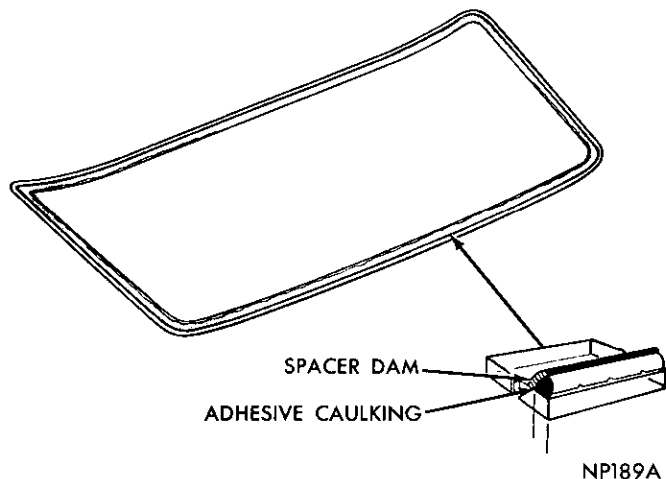
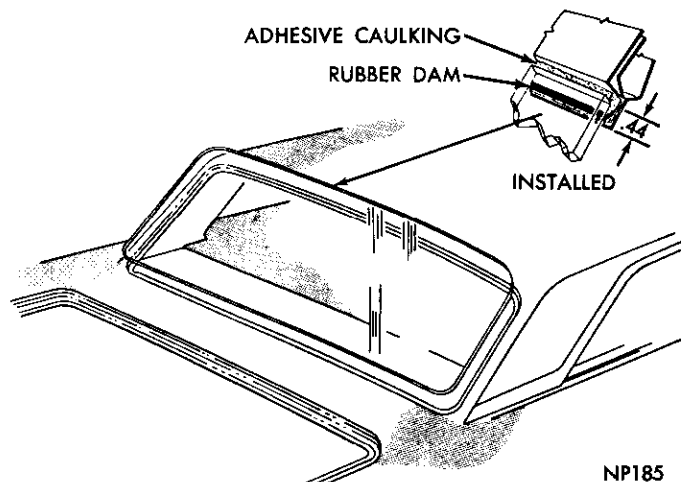

Fig. 8—Adhesive Application to Glass
Fig. 9—Rear Window Installation
(5) Attach suction cups to glass outer surface and position glass in opening.
(6) Inspect relationship of glass to fence completely around opening. The spacer dam should fold under and create a cushion for the glass to rest on. The glass to body fence overlap (0.30 inch minimum) should be equal across the top and sides. Use waterproof shims under spacers to obtain required overlap.
(7) Apply a piece of masking tape over each side of glass and roof extensions. Slit tape vertically at edge of glass so when glass is installed, tape on glass can be aligned with tape on body.
(8) Remove glass from opening and place on a protected surface, with inside surface up.
(11) Insert adhesive tube into a standard household caulking gun, install nozzle on end of tube, and puncture adhesive seal at nozzle.
(12) Apply a smooth continuous 3/8 inch bead of adhesive on glass between glass edge and spacer dam (Fig. 8).
(13) When positioning glass in opening, alignment must be exact to prevent necessity of moving glass after adhesive contacts fence.
(14) With an assistant and using suction cups on glass, align tape on glass with tape on body, make certain glass will set on rubber spacers and install glass in opening (Fig. 9).
(15) Press glass lightly to adhere adhesive to fence flange.
(16) Run a flat wooden or fiber tool around entire edge of glass to force adhesive into opening between edge of glass and reveal.